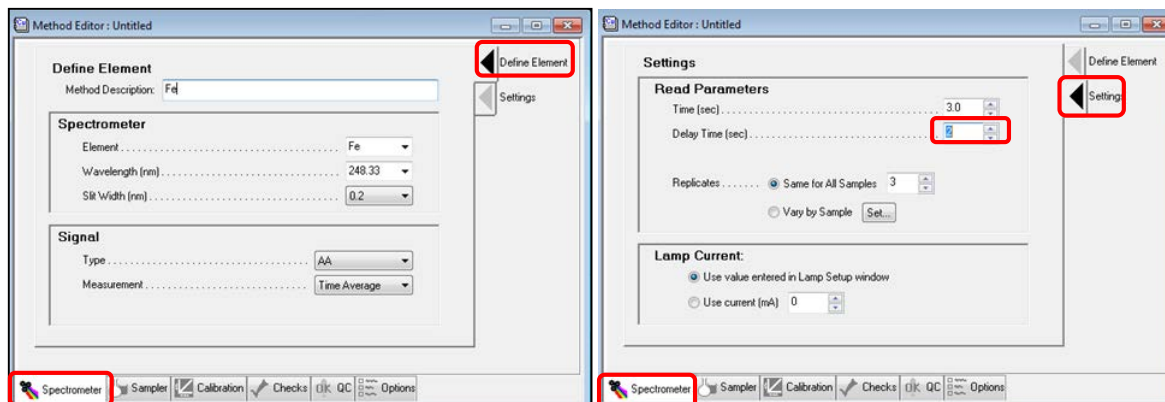

Fig. 16
3.2.3 Set parameters for **Spectrometer** (fig.16).